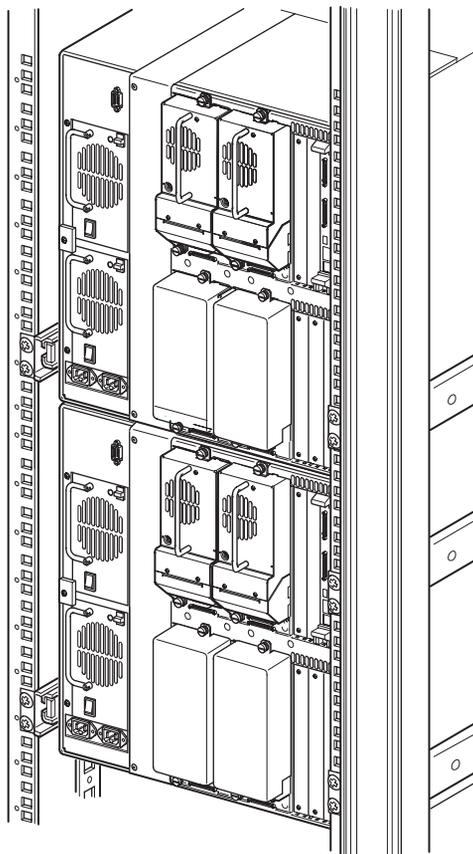

Figure 10: Library installation, 10U models (9000 rack enclosure shown)
1. Install two 10U libraries as shown in Figure 10 on page 31 following the instructions in the *HP StorageWorks MSL5000 and MSL6000 Series Tape Library User Guide*.